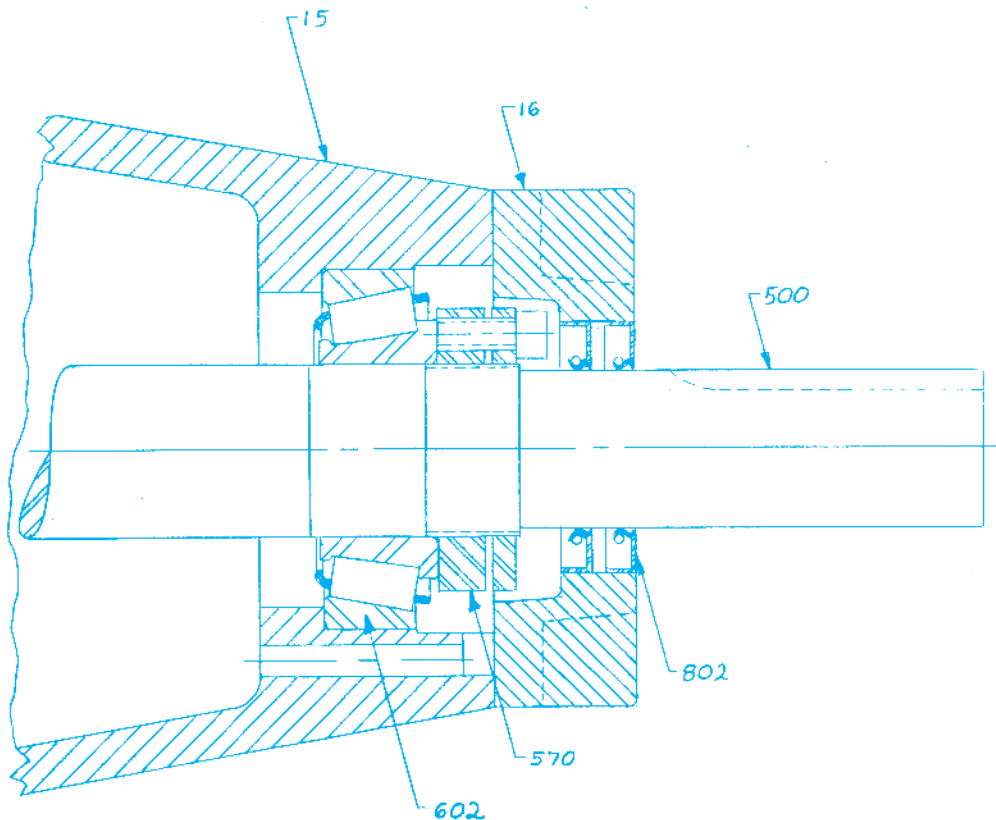

Figure 11
1.0 Refer to Figure 11 during installation
2.0 Install seals (802) in the oil seal plate (16) so the springs will be toward the gear drive.
4.0 Install the seal plate (16) on the horizontal carrier (15). Use a shield to protect the seals from being cut by the keyway on the horizontal shaft (500). **Make sure** the match marks on the oil seal plate and the horizontal shaft carrier are aligned. The oil drain back notch in the seal plate must be located to the bottom.